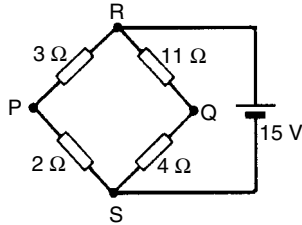

Figure 13.92
- 8 With reference to Fig. 13.92, which of the following statements is correct?
- 9 In Fig. 13.92, if the 15 V battery is replaced by a short-circuit, the equivalent resistance across terminals PQ is: